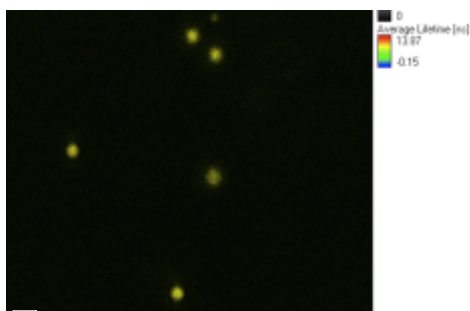
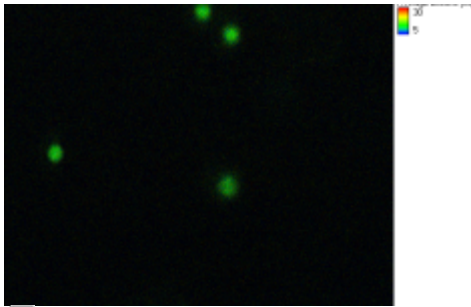
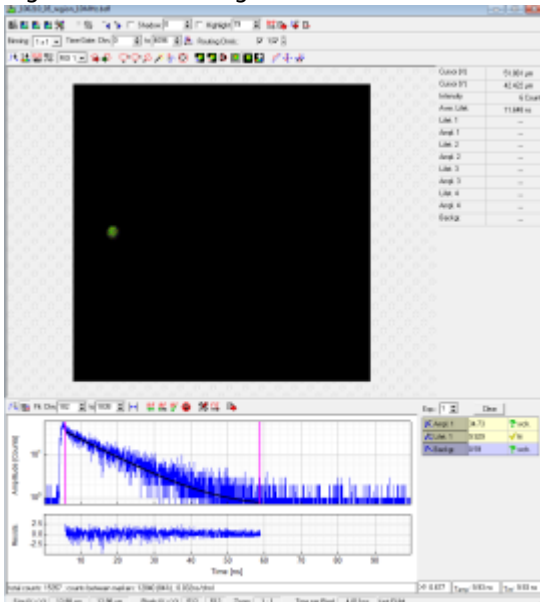

Figure5: NV-centers in bulk diamond. 5 micrometer into the sample, 532nm excitation, 690/70 emission, 40MHz rep. rate, 6789.96a.u., 2ms/pixel, 15×15 micron
Figure6: same as figure 5 but recorded with 10 MHz rep rate., 2304.94 a.u.;4 ms/pixel 45 min rec. time!
Figure7: Fluorescence Lifetime Fit of a selected NV center, 10 Mhz rep rate, Inhouse II, MPD/SPAD
- zoom into a region with a few NV-centers (see figure 5),
- For lifetime analysis switch laser repetition rate to 10MHz (see figure 6)
- smaller area is depicted in figure 5 and figure 6
- Selecting a ROI in figure 6 and plotting the fluorescence lifetime histogram should resemble figure 7